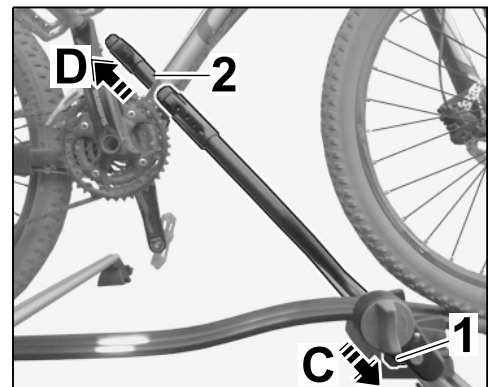

Figure 20
- 6.4 Hold the bicycle securely and press the button (⇒ *Figure 20-C-*).
The frame holder opens (⇒ *Figure 20-D-*).